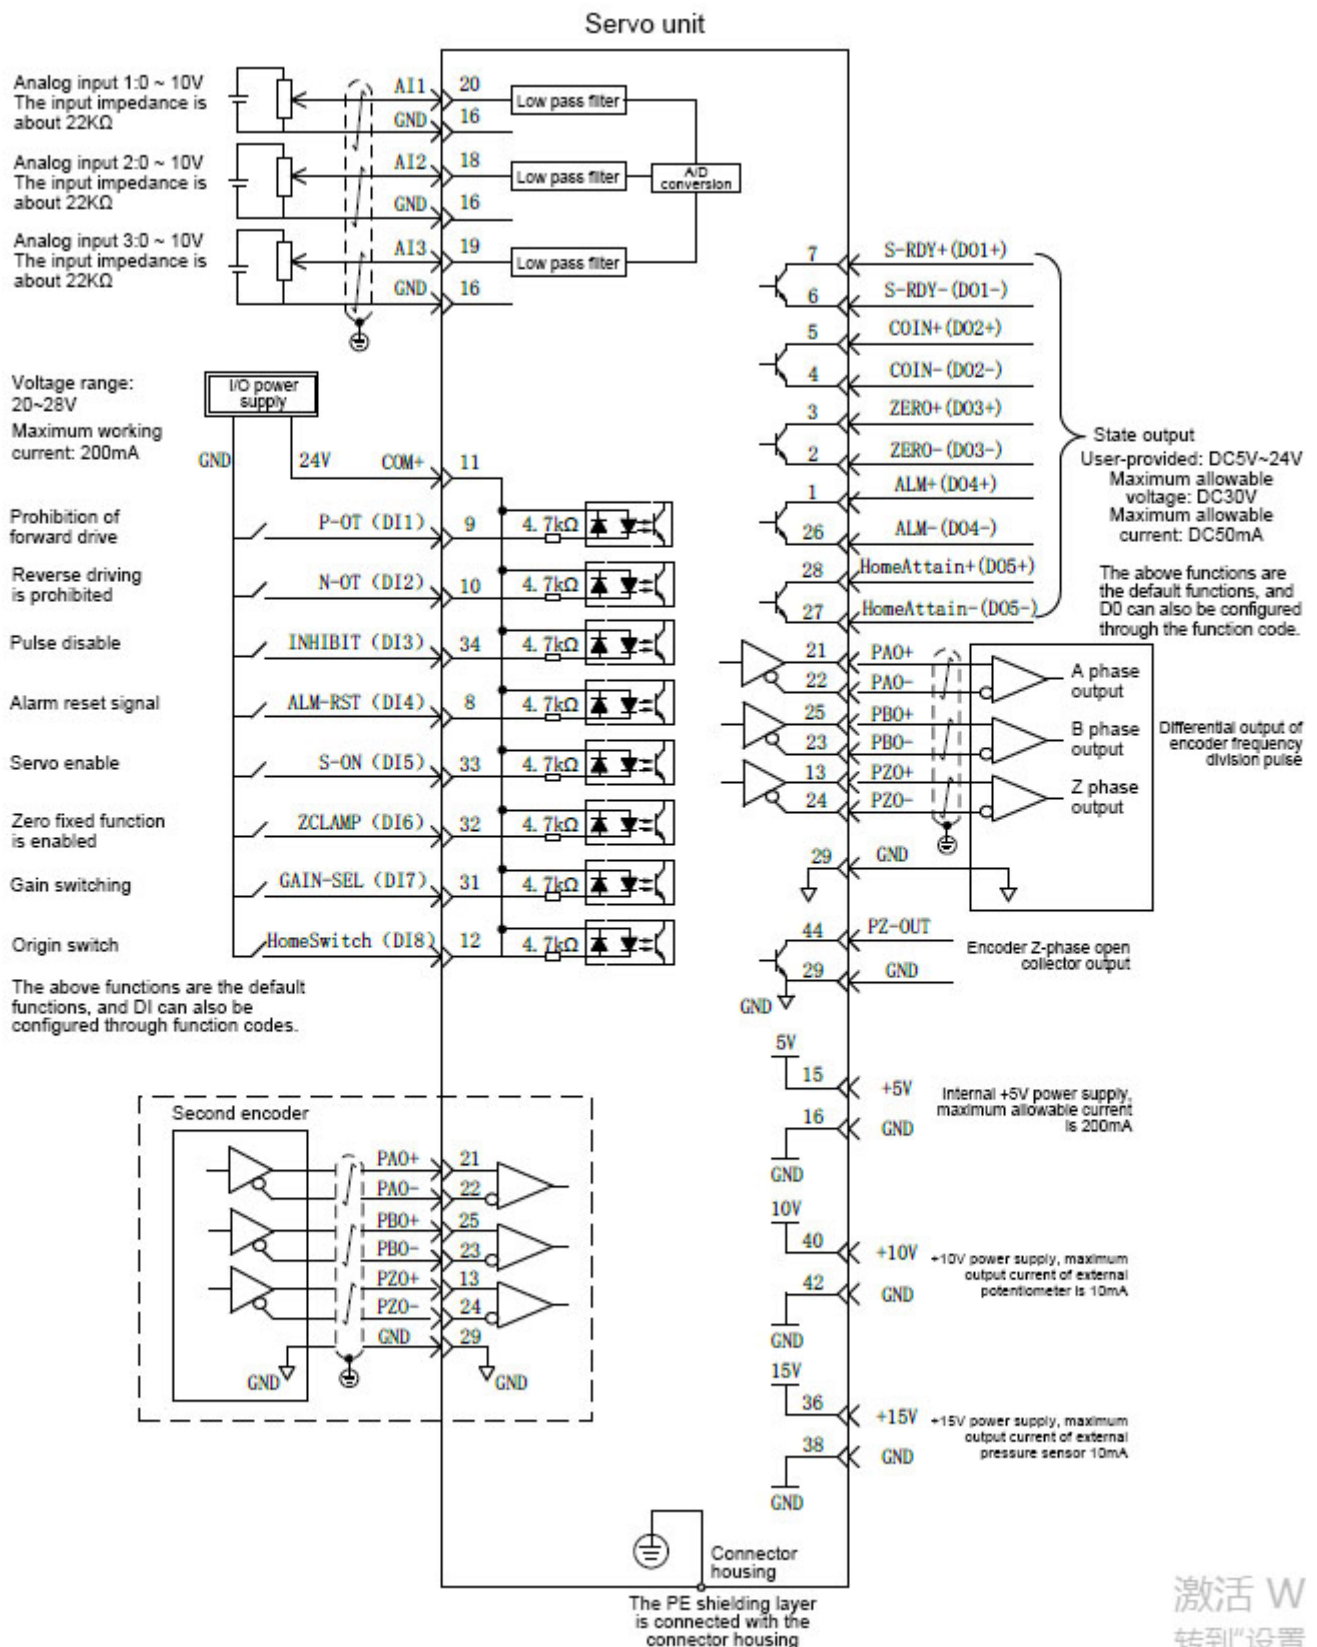

Figure 4-13 Wiring Diagram of Torque Mode
3. Refer to Figure 4-13 for wiring to explain the necessary DI/DO, torque command source, speed limit and other signals in connecting CN1 terminals.